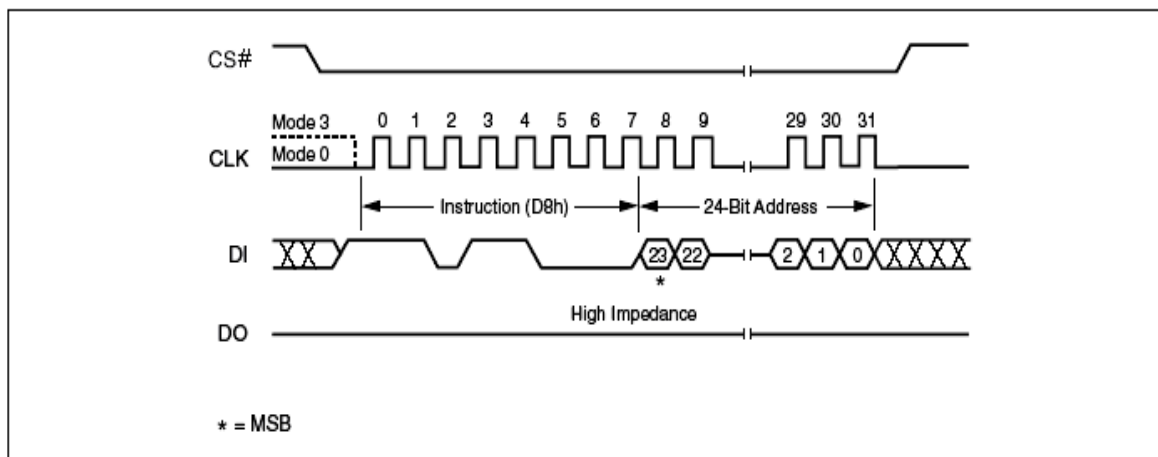

Figure 31. 64KB Block Erase Instruction Sequence Diagram
The instruction sequence is shown in Figure 31. Chip Select (CS#) must be driven High after the eighth bit of the last address byte has been latched in, otherwise the Block Erase (BE) instruction is not executed. As soon as Chip Select (CS#) is driven High, the self-timed Block Erase cycle (whose duration is t_{BE}) is initiated. While the Block Erase cycle is in progress, the Status Register may be read to check the value of the Write In Progress (WIP) bit. The Write In Progress (WIP) bit is 1 during the self-timed Block Erase cycle, and is 0 when it is completed. At some unspecified time before the cycle is completed, the Write Enable Latch (WEL) bit is reset.